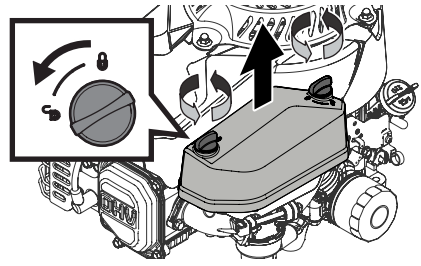

Figure 11
2. Remove the air filter cover (Figure 11).